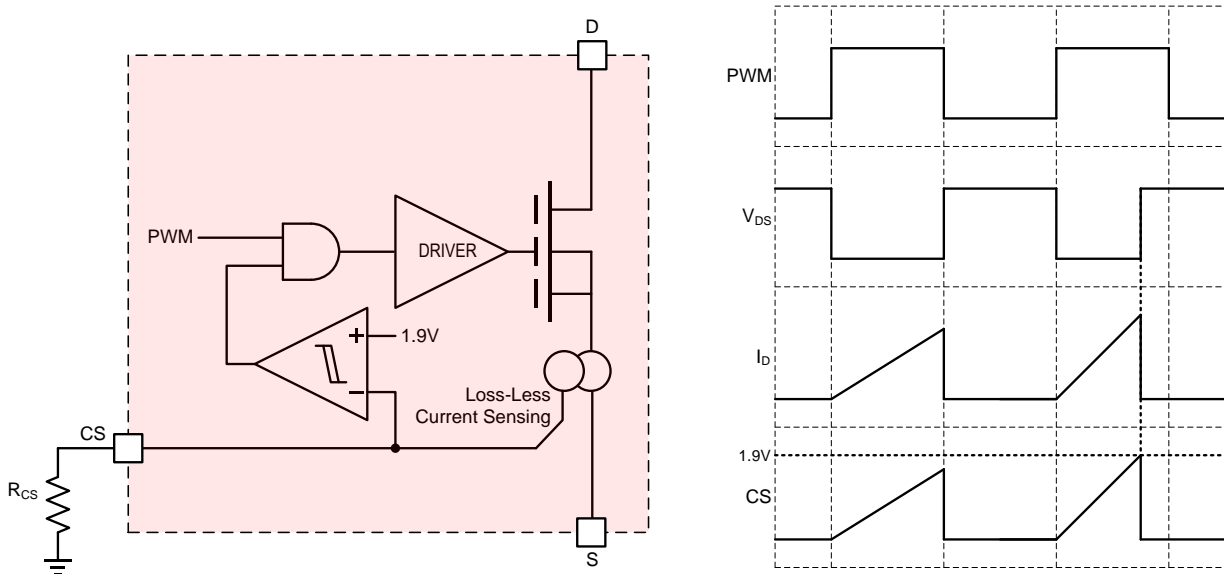

Fig. 21. Current Sense Circuit and Timing Diagram
In many systems implemented with a peak current mode control or over current protection (OCP) functions, the current flowing through the power FET needs to be sensed. To sense the current, most solutions use a current-sense resistor in series with the FET and it increases power loss and introduces more parasitic inductance into the power loop. ISG6103 employs a current-sense circuit without any external resistor to sense the current as shown in Fig. 21. The loss-less current-sense circuit converts the current flowing through the GaN FET to the output current signal of CS pin with a conversion ratio of 2240:1 (typical). The output current of CS pin can be converted to the voltage by a resistor, R_{CS} , placed between CS pin and ground. The value of R_{CS} can be adjusted to provide the current-sense voltage with a proper voltage range for various controllers. The voltage on CS pin, V_{CS} , is determined by equation (1).
where I_D is the drain current of GaN FET. Fig. 21 shows the switching timing diagram of the current sense output.
The ISG6103 provides a cycle-by-cycle over current protection based on the current-sense signal, V_{CS} , to protect the GaN FET. As illustrated in the timing diagram of Fig. 21, when the CS-pin voltage exceeds 1.9V (typical), the GaN FET is turned off. GaN FET will be turned on again at the next rising edge of PWM signal. The current limit by OCP can be calculated by equation (2).